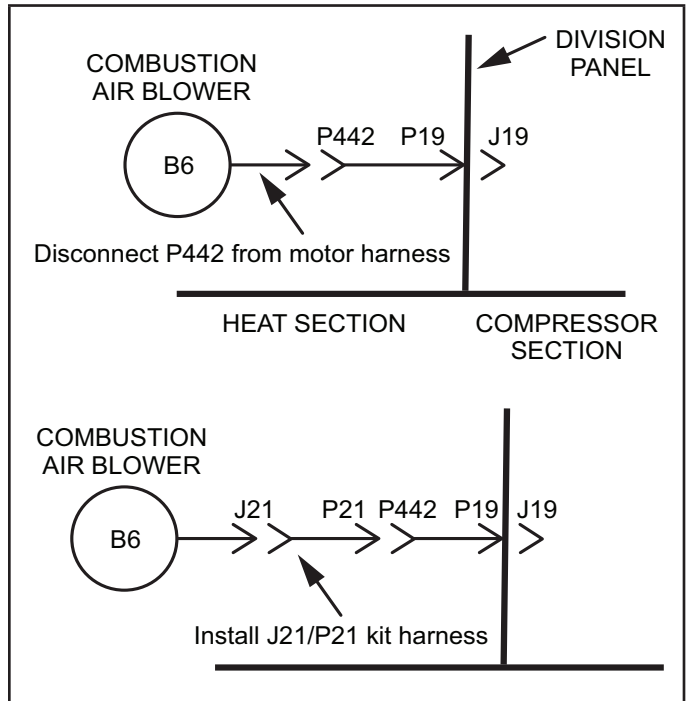

Figure 3
- 3 - Install the kit harness between the motor plug and unit jack. Refer to Figure 3.